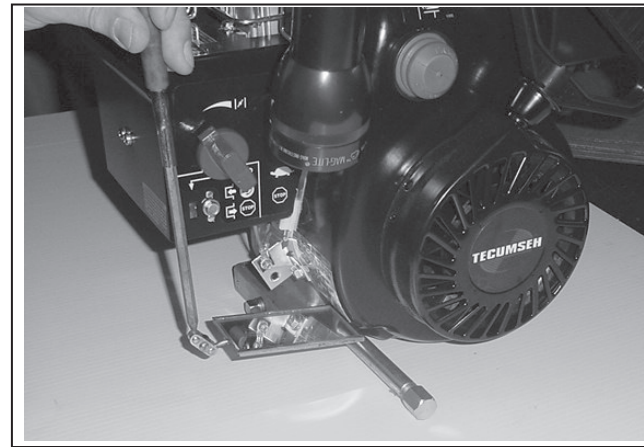

Figure 5
2. Next, cut a small 3-sided flap at that same height as the engine ID label through the side of the box to view the ID label and determine if it is in the affected range. Dependent on the OEM container, this may require the use of a telescoping mechanics mirror and a flashlight to view the ID label (fig. 5). If you are doing multiple machines you may wish to make a template to cut a small opening in the side of the box to access the ID label and the fuel line if needed. If the unit is boxed, reseal it to sellable condition using clear tape.